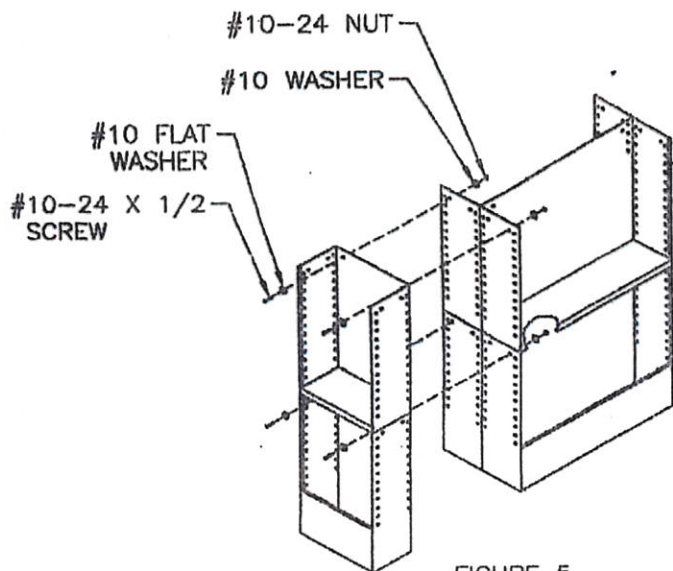

FIGURE 5
5. To attach RXWA15 to an island as an end unit: (FIGURE 5)
- b.) Fasten units with (4) #10-24×1/2 screws, washers and nuts through the top and center holes.